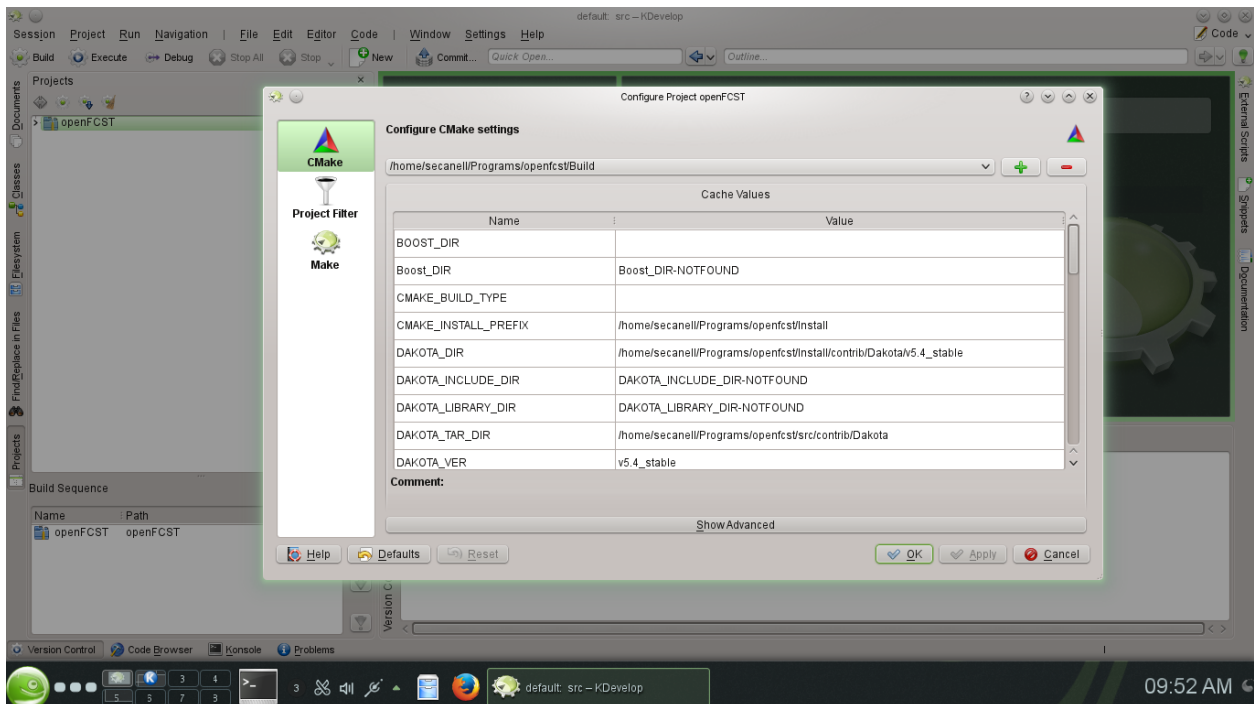

Figure 7.2: Configuring your CMake project in KDevelop.
- If you want to modify the compilation parameters in the project, you can do that by right clicking on the project name and selecting **Open Configuration...** The menu in Figure 7.2 would appear. You should not need to modify many parameters, however several parameters are handy. The variable `OPEN_FCST_BUILD_TYPE` allows you to compile the code in Debug or Release mode. The former is used during code development as it provides a lot more information about errors, the latter is best for simulations as the code can be several times faster. Another useful parameter is `OPEN_FCST_DIMENSIONS`. If set to 2, it will only compile a 2D version of OpenFCST. If you compile with 3, it will compile a 3D version. If you compile with 1, it will compile both 2D and 3D versions. Finally, on the left menu if you click on Make, the parameter `Number of simultaneous jobs` sets up the compilation for using as many threads as specified.